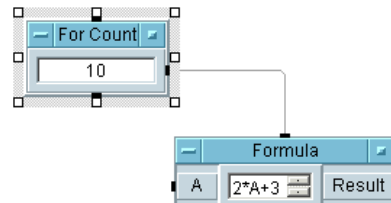

Figure 13 Selected and Deselected Objects
- 1 To select an object, click on the object and a shadow appears behind it. For example, in Figure 13, the For Count object is selected.
- 2 To deselect an object, move the mouse pointer over any open area and click. The shadow disappears. For example, in Figure 13, the Formula object is not selected.